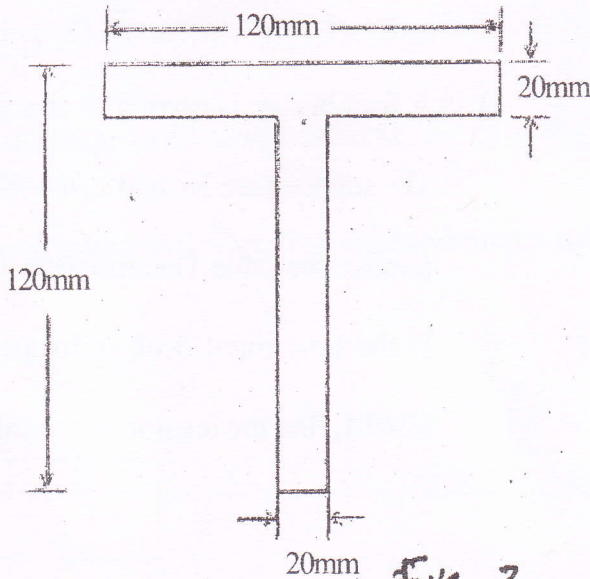

Fig.3
- e) Define shape factor and obtain its value for T - section with the following dimension shown in the fig.3 if the yield stress is 250 N/mm^2 . Find M_p .